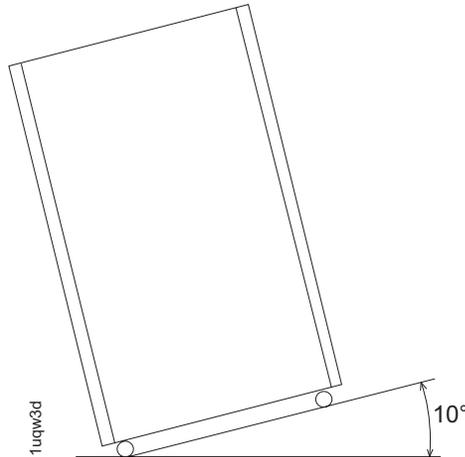

Figure 22. Maximum tilt for a packed unit is 10°
3. To compensate for the weight of the DS8000 shipment, ensure that the loading ramp at your site does not exceed an angle of 10°. (See Figure 22.)